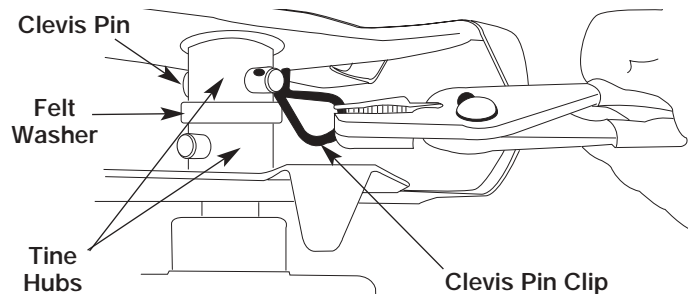

Fig. 6
2. Remove the clevis pin clips and clevis pins (Fig. 6).